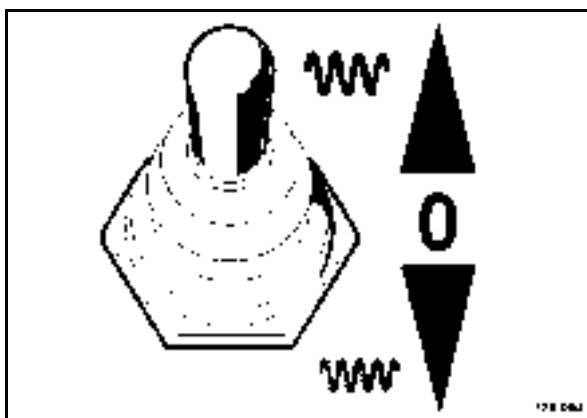

Fig. 65
- Set the vibration toggle switch (Fig. 65) to position "0".